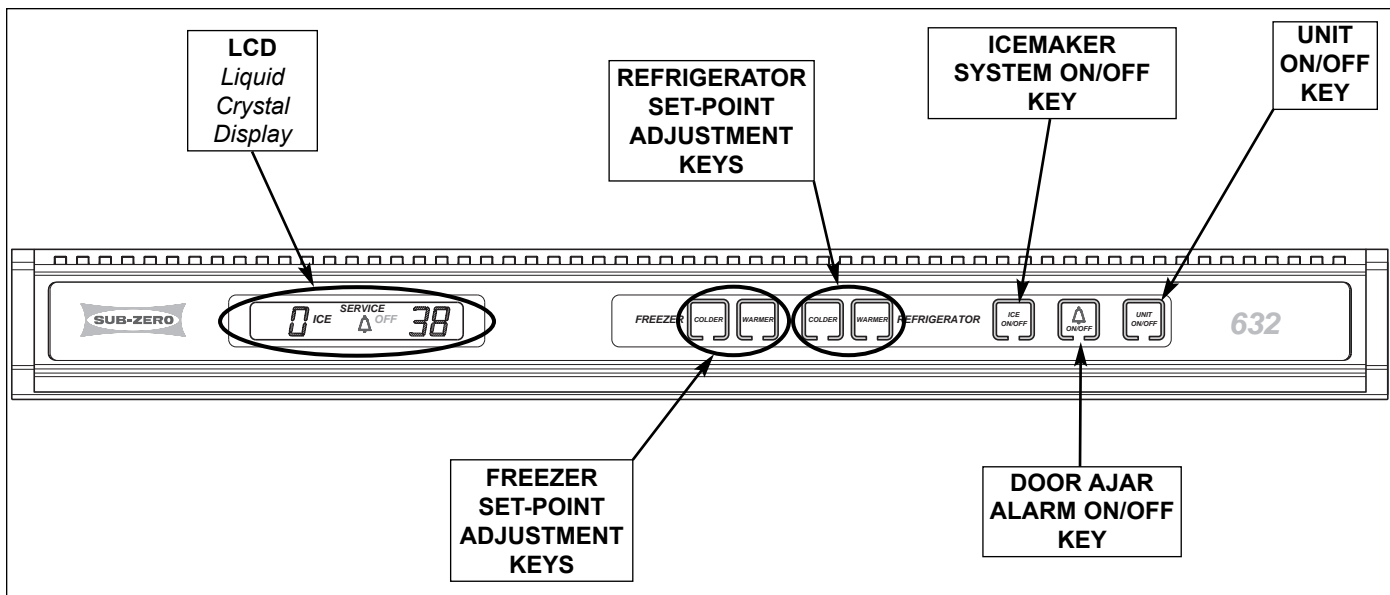

Figure 3-4. 600 Series Control Panel Layout (Model 632 Control Panel Shown)
- The illustration below is of a 632 control panel (See Figure 3-4).